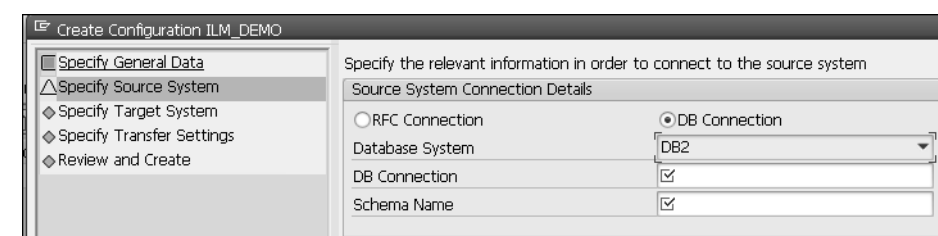

Figure 8.6 Create Configuration: Specify Source System (DB Connection)
7. If the legacy system is an external system (non-SAP system), select the **DB Connection** radio button (see Figure 8.6), and make the following entries: